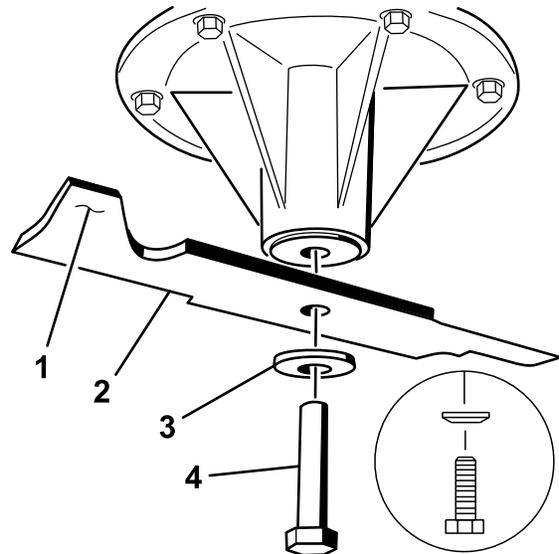

Figure 101
2. Remove the blade bolt, curved washer, and blade from the spindle shaft (Figure 101).
- If the blade is not balanced, file some metal off the end of the sail area only (Figure 101).